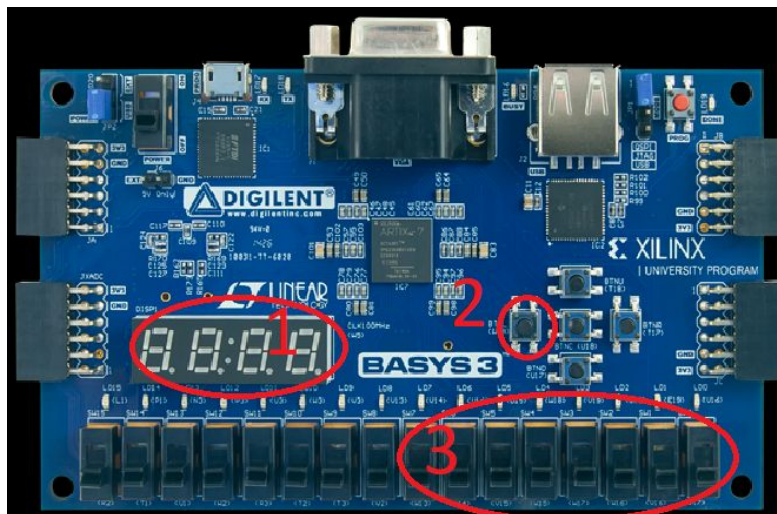

Figure 1: Annotated figure of Basys 3 board
The above figure 1 shows the three components of our board. This includes the seven segment display (1), the reset button (2), and the eight switches with accompanying LEDs (3). The display will begin at 20 seconds, and count down. During this time, the LEDs will flash one at a time, randomly, while the user is to switch the corresponding switch on and off. When the timer reaches 0, the display will then display the number of times the user “whacked” an LED, and the reset button may be used to start the timer over at 20, and play again.
Table 1: Explains the inputs and outputs annotated in Figure 1